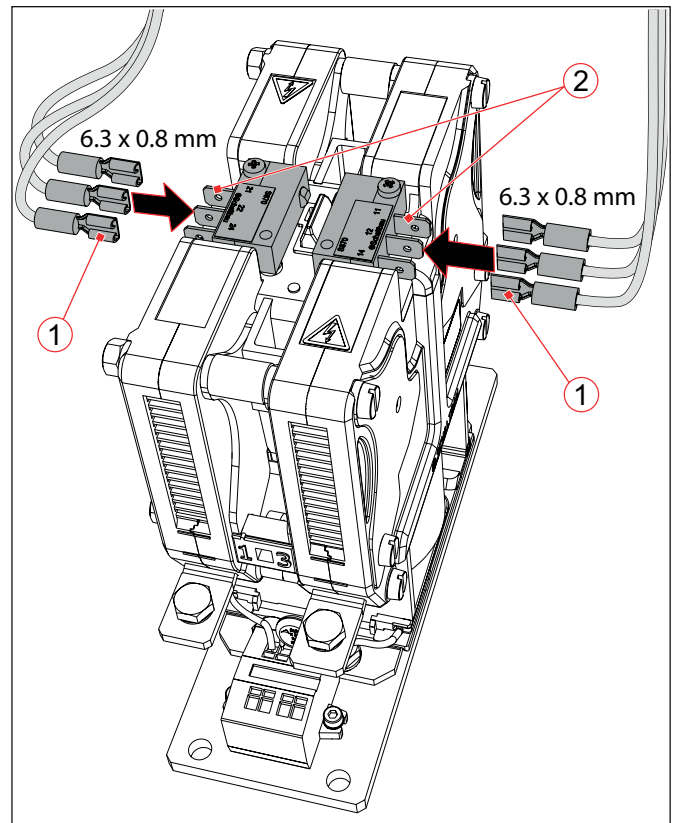

Fig. 6: Connect the S870 auxiliary contacts
- ▶ Move and lay the control wires and blade receptacles only in plugging direction, see **Fig. 6**.